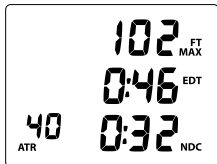

Fig. 73 - NO DECO SAFETY
**NO D SAFETY STOP ALT 1**, information includes (Fig. 73) -